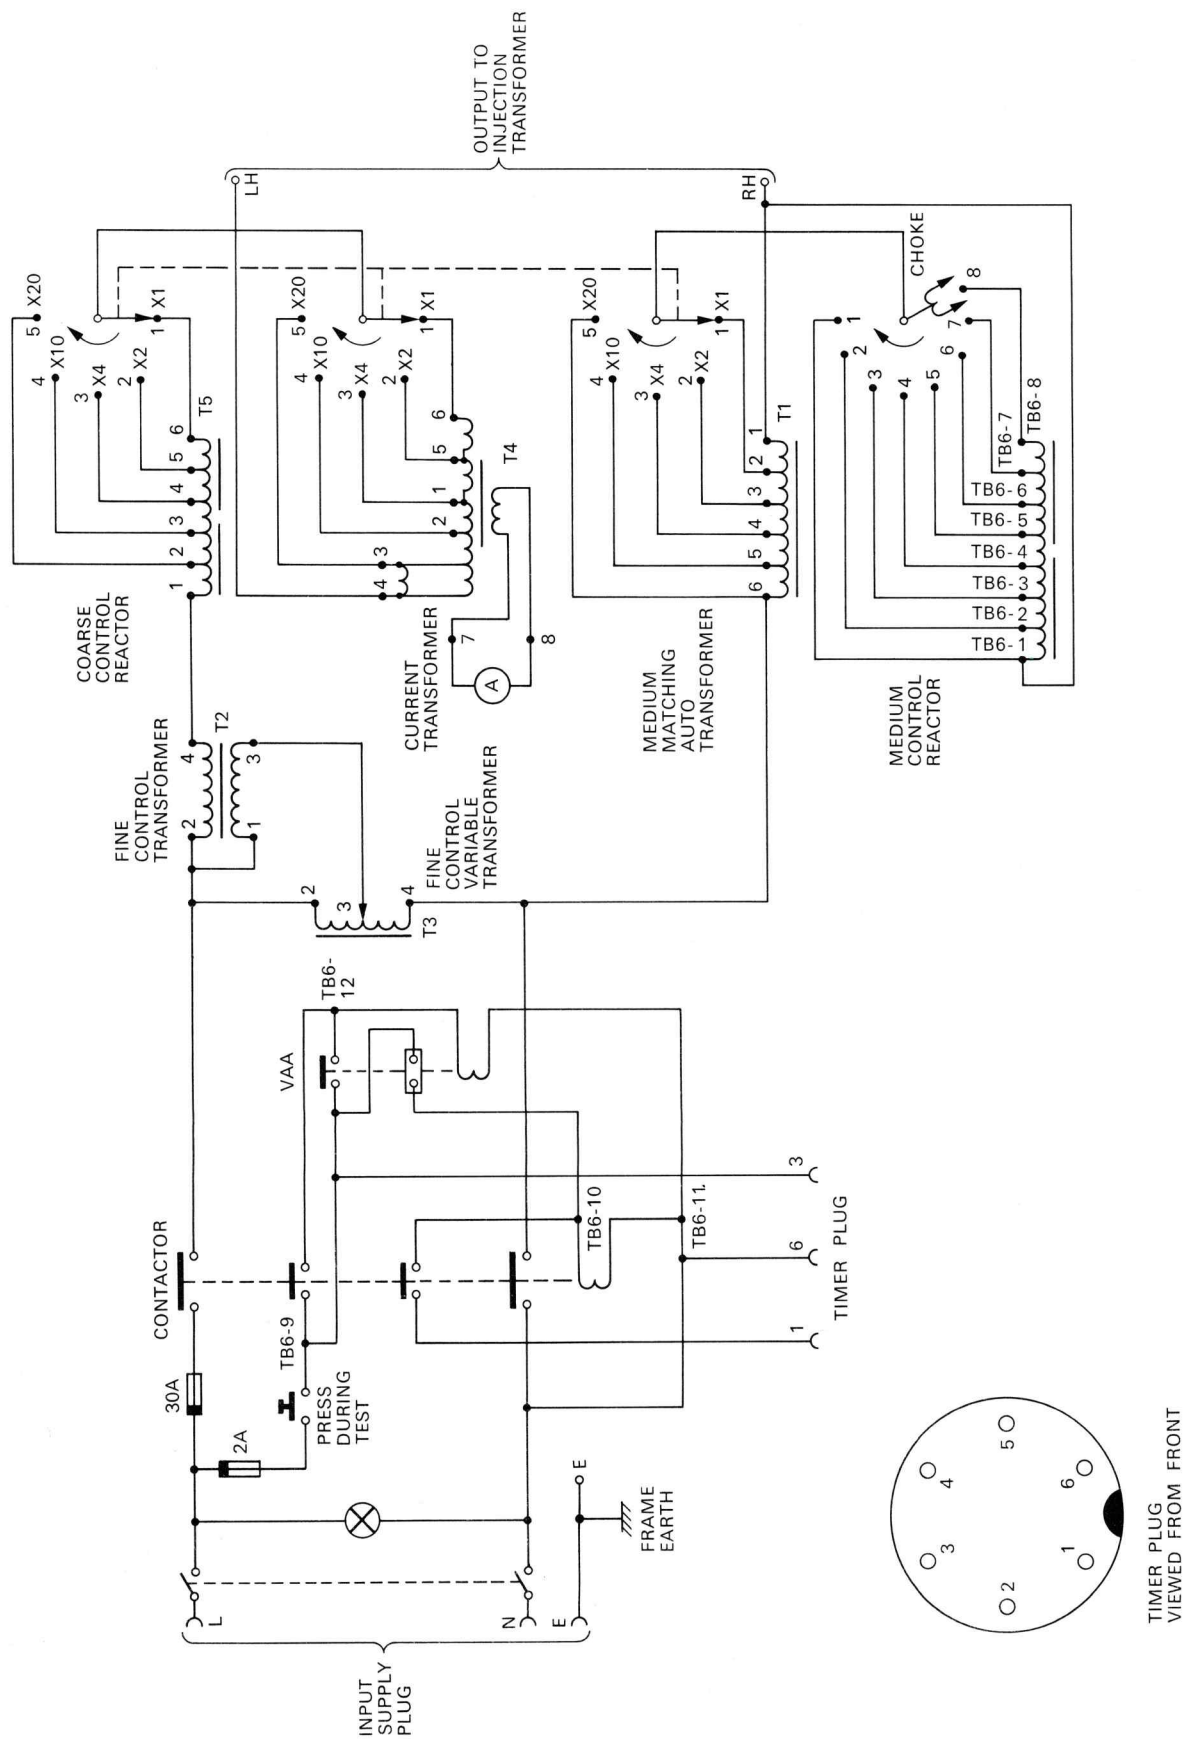

Figure 1 CIRCUIT DIAGRAM OF POWER SUPPLY UNIT (UNIT A)
The test equipment comprises two units, the power supply unit (A) and the injection transformer unit (B). Circuit diagrams showing the connections within these two units are given in Figures 1 and 2. Connections between the units for the control circuits are by means of a multicore cable which is plugged in. The main current connections and earth connection are made by clamping the connecting leads under post-type terminals. A schematic diagram of the complete equipment and its inter-connections is shown in Figure 3.